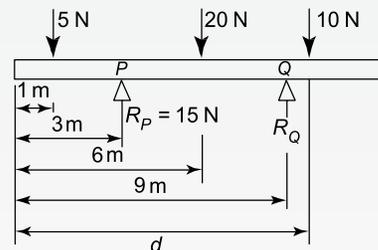

Figure RT2.2
11. For the beam shown in Figure RT2.2 calculate (a) the force acting on support  $Q$ , (b) distance  $d$ , neglecting any forces arising from the mass of the beam. (7)